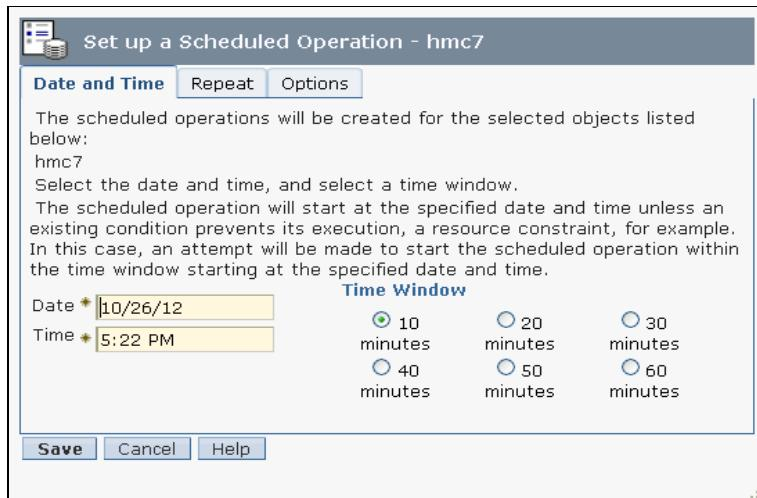

Figure 6-25 Set up a Scheduled Operation window on the Date and Time tab
3. On the Date and Time tab (Figure 6-25), select the date and time, and time window for the first backup. The scheduled operation starts at that *time window*.